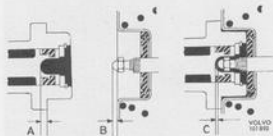

Fig. 5-51. Adjusting thrust rod:
1. For the correct function of the master cylinder, the outgoing thrust rod of the servo cylinder must not prevent the primary piston from returning to its resting position. Thus, when fitted and in the resting position, the thrust rod and primary piston should have a clearance (dimension C, Fig. 5-51) between them.
Before fitting the master cylinder, check the clearance first by, for example, measuring with slide calipers the distance between the face of the attaching flange and the center of the primary piston, dimension A, Fig. 5-51. Then measure how much the thrust rod (the adjuster screw) projects outside the fixed surface of the servo cylinder, dimension B. For this measurement, the thrust rod should be pressed in fully and a partial vacuum should exist in the cylinder so that the engine, if necessary, can be started. Dimension A reduced by dimension B will result thereby in the clearance C, and should be 0.1–1.0 mm (0.004–0.04"). When adjusting, lock the screw with a couple of drops of Locktite, type B.